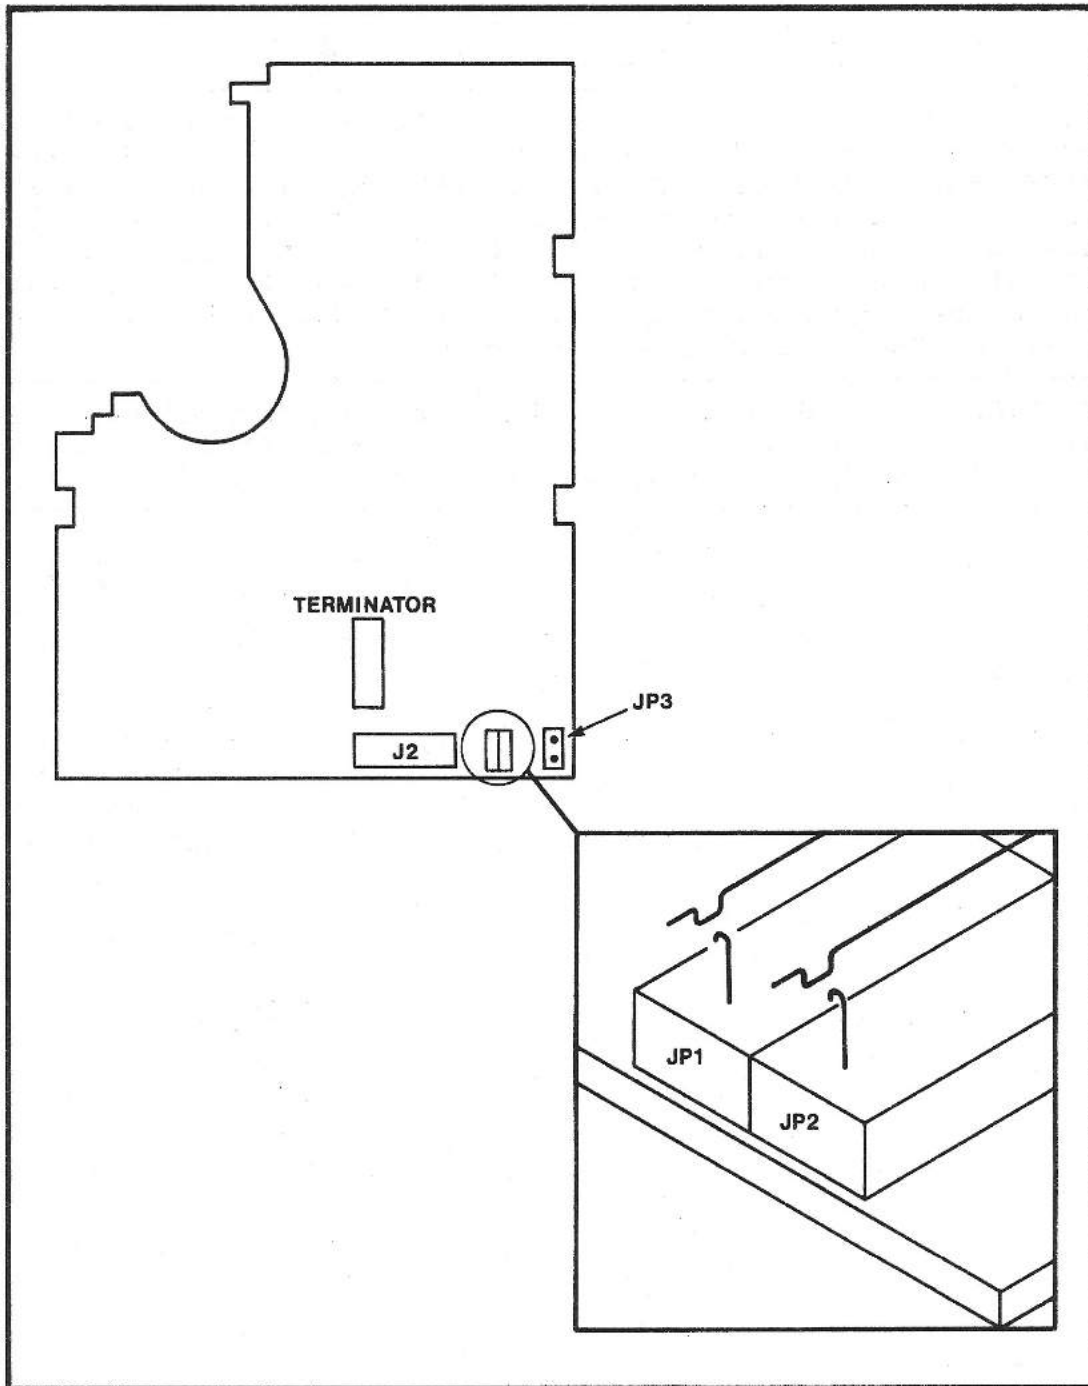
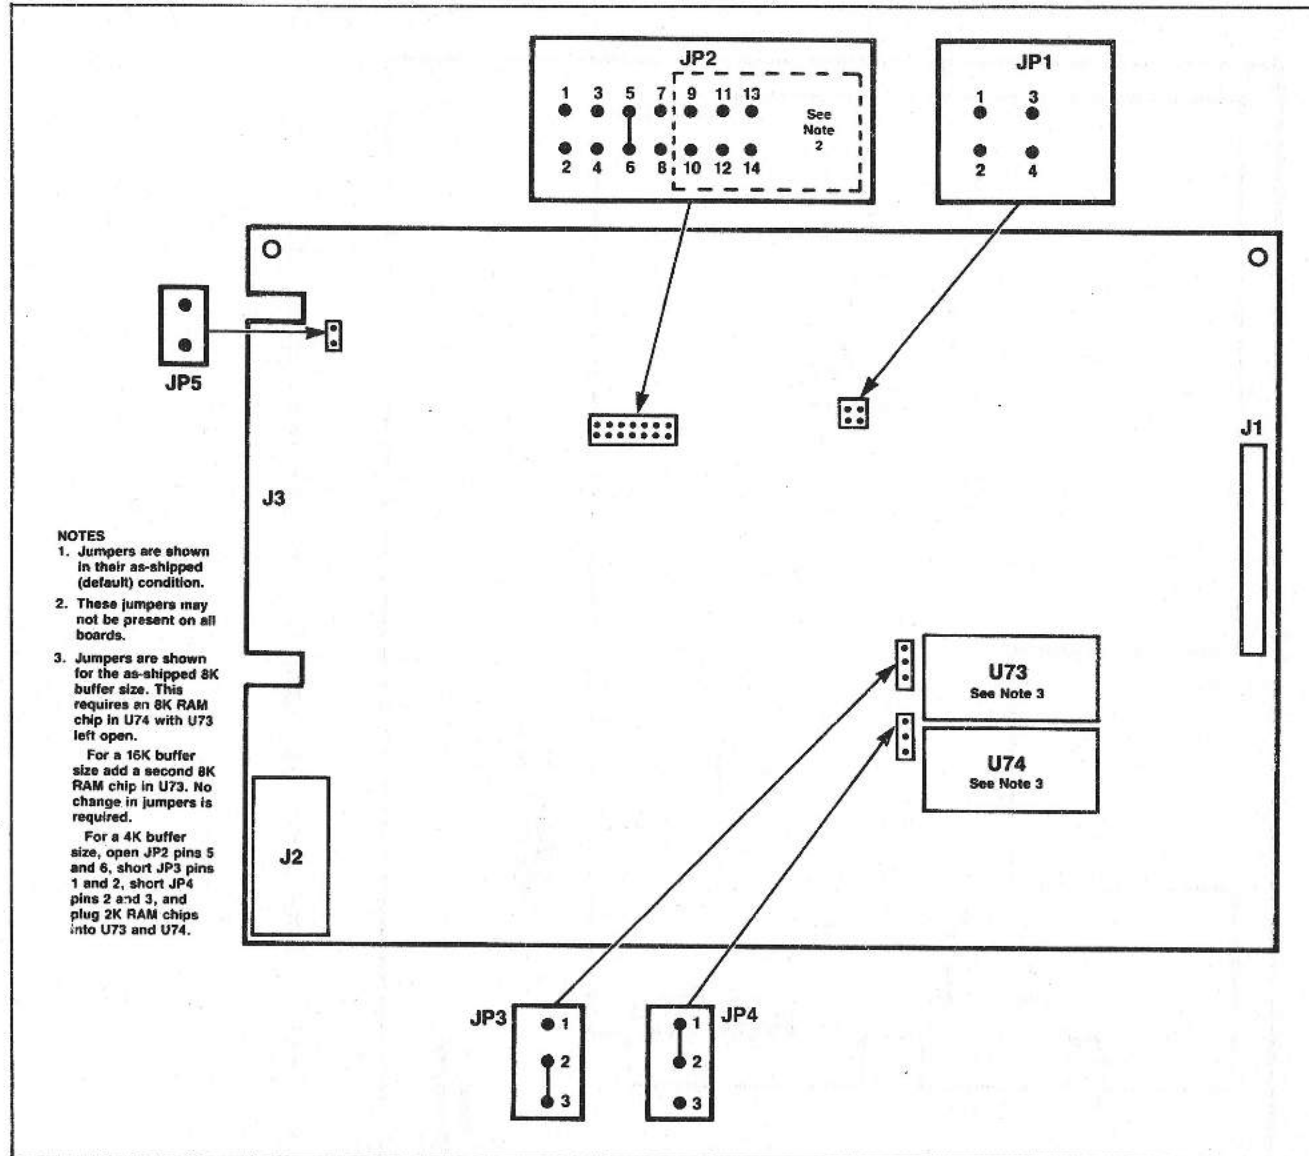

Fig. 4-14 Location of jumpers on Tandberg TDC 3309
Fig. 4-15 Location of jumpers on Tandberg TDC 3350
The TDC 3309 is a half-height 1/4-inch, streaming, cartridge-tape drive. The drive's separate formatter board is the TDC 3350. Two hook-type connectors, JP1 and JP2, on the rear of the drive's internal circuit board, allow the user to select the drive-select number (see Figure 4-14). In the SMS 1000 Model 30 system the TDC 3309 is always set as drive 1 (T0). Table 4-33 describes the use of these hook-type connectors JP1 and JP2, and Figure 4-14 shows their locations. Table 4-33 also includes information on jumpering the TDC 3350 formatter board. The TDC 3350 jumpers are shown in Figure 4-15.
In Table 4-33, with regard to the hook-type connectors used on the TDC 3309, the term OUT means that the long part of the connector is NOT hooked to the stationary part of the connector. The term IN means that the long part of the connector IS hooked to the stationary part of the connector. Figure 4-14 shows both connectors in their default, or unhooked (OUT), position.
TERMINATORS. The terminating resistor pack (Figure 4-14) is located behind the d-c power connector J2. This pack must be plugged in its socket in all single-drive systems.
(See Figures 4-14 and 4-15)
----- TDC 3309 DRIVE (see Figure 4-14) -----
TDC 3350 FORMATTER BOARD (see Figure 4-15)